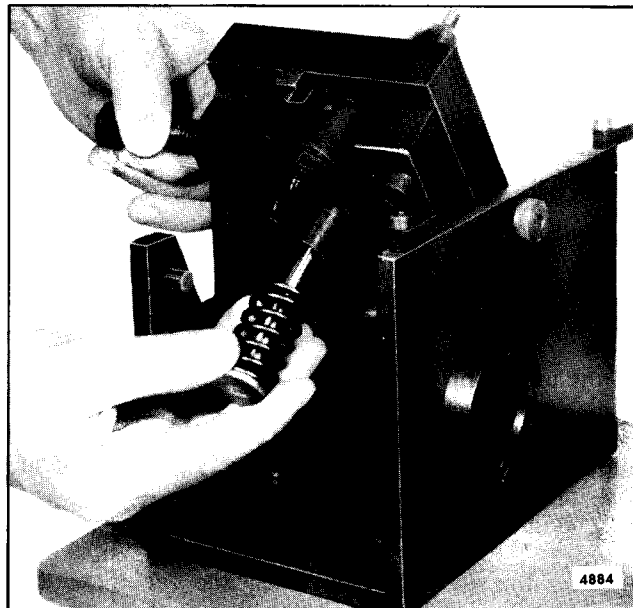

Fig. 19 - Removing or Installing Plunger Follower, Plunger and Spring
3. Refer to Fig. 19 and remove the plunger follower, plunger and spring as an assembly.